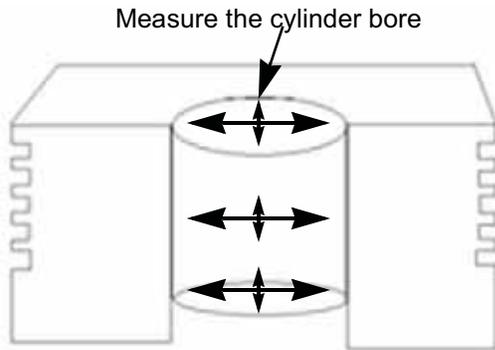

Figure 10.14
**NOTE:** Take two measurements of the cylinder bore 90 degrees apart at the top, bottom and middle of the cylinder. See Figure 10.14.